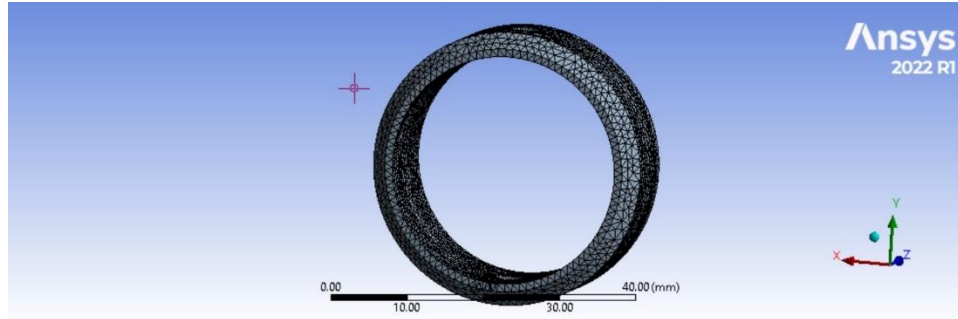

Figure 4b: Generated Mesh on Bearing
- **Mesh:** Sweep mesh method used for uniform element distribution as shown in **Figure 4b**